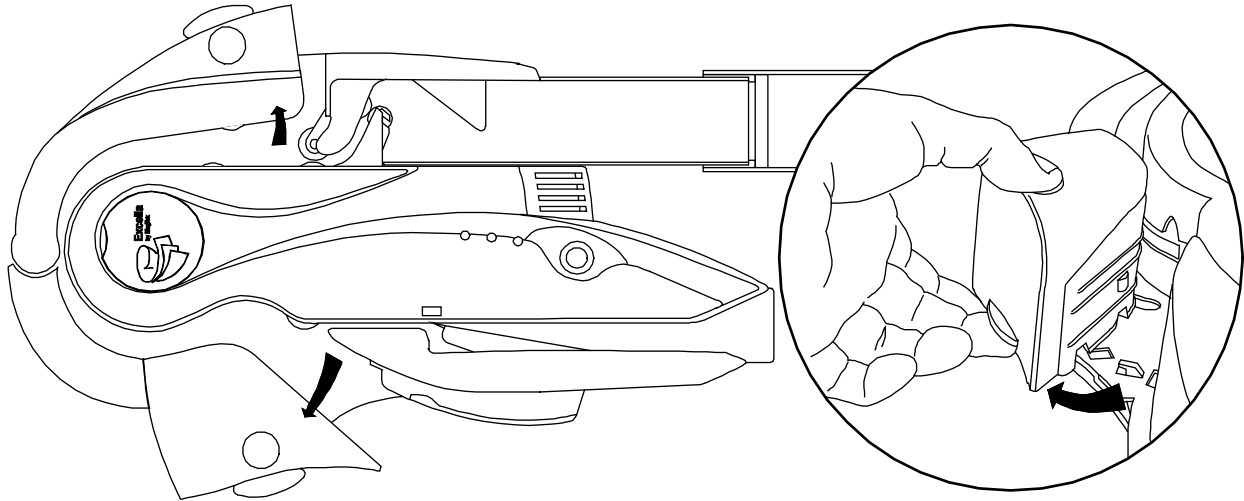

Figure 2-3. Opening the Entry and Exit Guides
1. Open the **Outside Entry Guide** by placing the thumb on the **Indent** and the finger(s) on the **Tab** as shown in Figure 2-3 and squeezing, and then gently pull the Guide open.